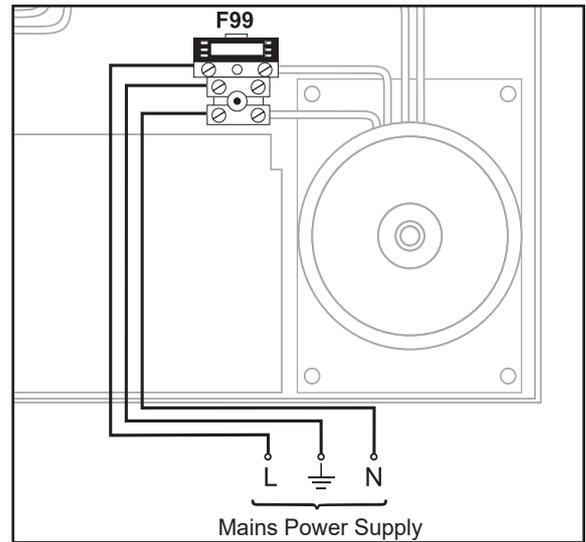

Figure 4. Mains connection
- Connect the field wiring: See Figure 4.